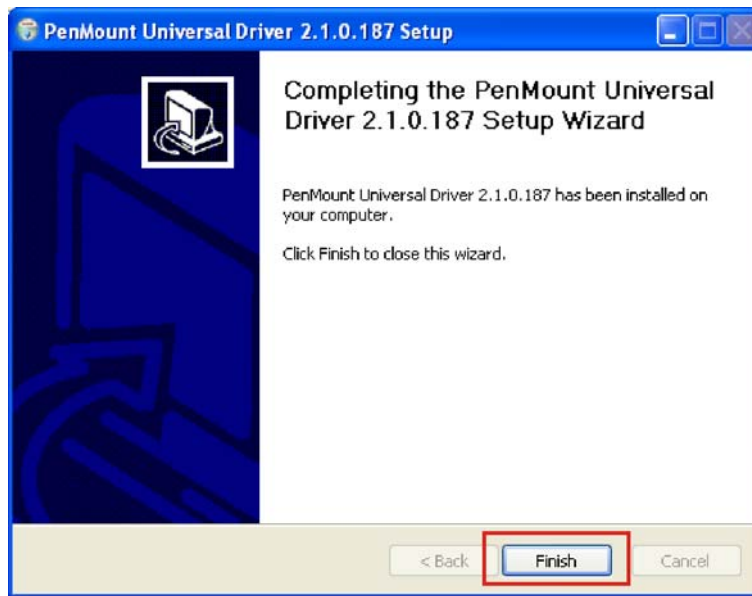

Figure 6-30: InstallShield Wizard Complete
Step 11: The InstallShield Wizard Completed window appears (Figure 6-30).
Step 12: Click **FINISH** to complete the installation process and exit the touch panel driver installation program (Figure 6-30).